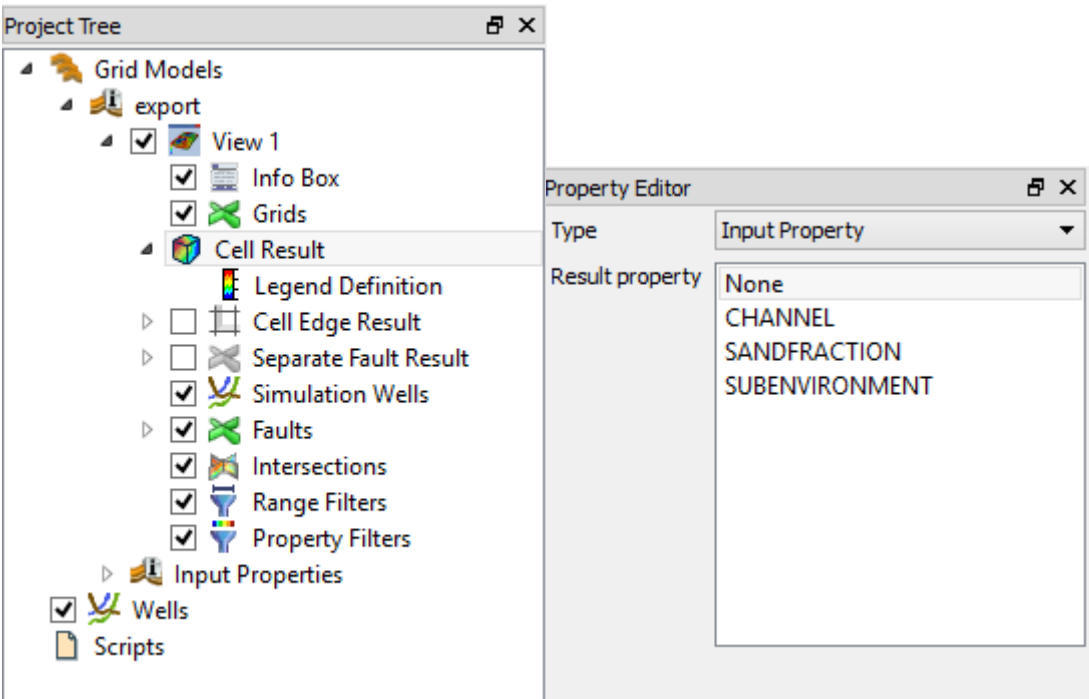

Figure 3.38 Project tree and property editor in ResInsight
3. Control the visualization using the Project Tree and the Property Editor for switching views between different properties (Figure 3.38).